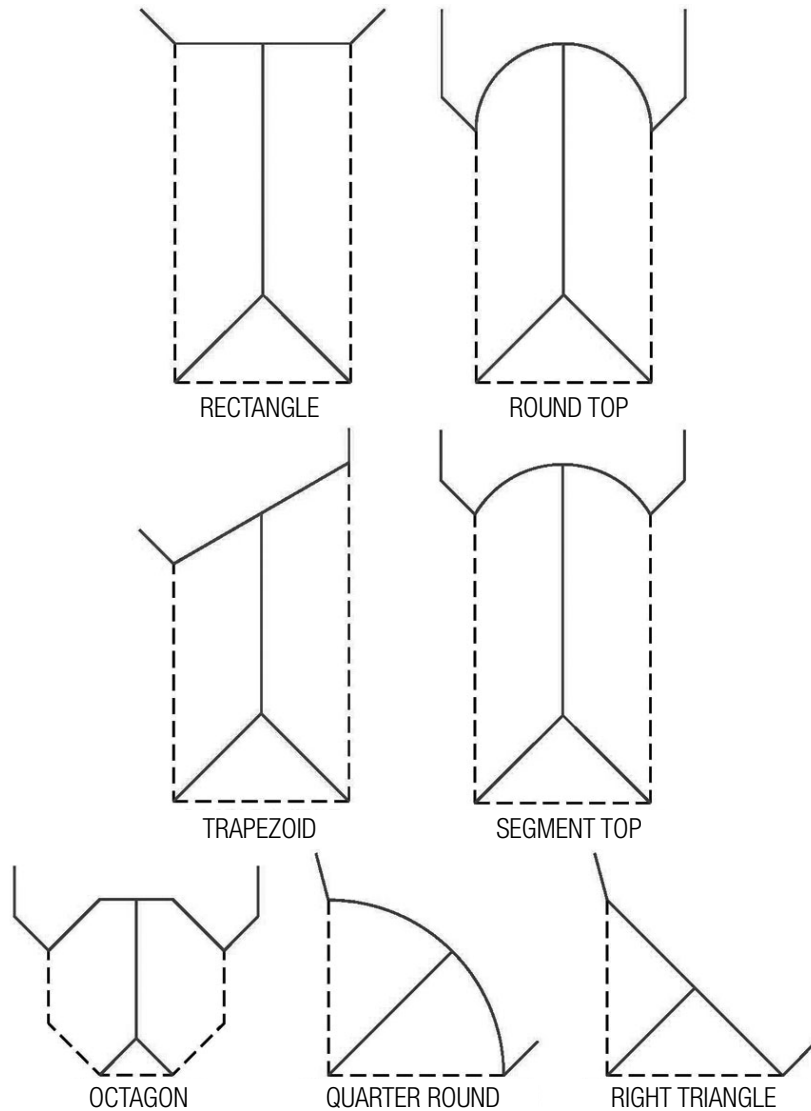

FIG. 6
- K) Optional cutting patterns for radius and geometric shapes are shown in Fig. 6 below.